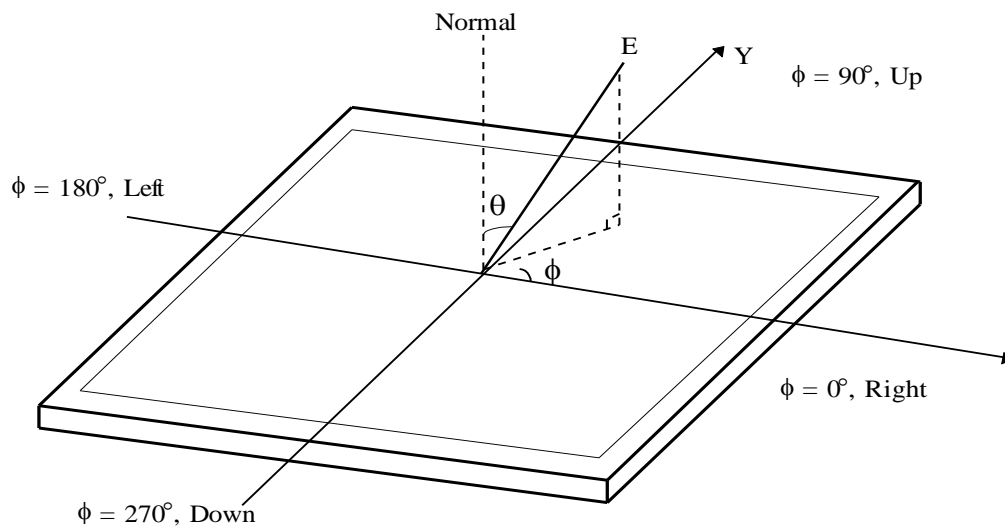

FIG. 4 Viewing Angle
4. Viewing angle is the angle at which the contrast ratio is greater than 10. The angles are determined for the horizontal or x axis and the vertical or y axis with respect to the z axis which is normal to the LCD module surface. For more information, see the FIG. 4.